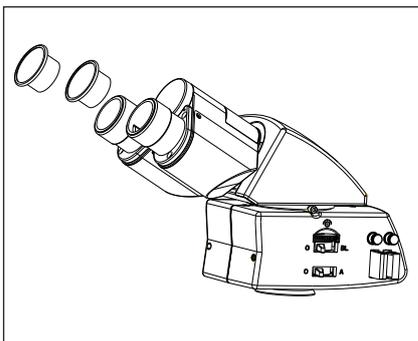

Fig.16
1. Remove the protective caps from the observation tube (See figure 16).